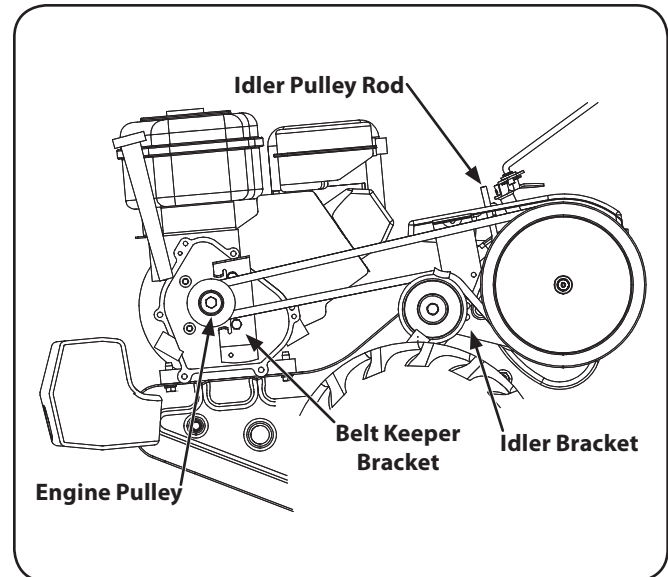

Figure 7-2
4. Remove the belt keeper bracket located behind the engine pulley by removing the two hex bolts and lock washers. See Fig. 7-2.
- NOTE:** Make certain the belt is routed over the idler pulley and inside of the belt keepers by the engine pulley. See Fig. 7-2.